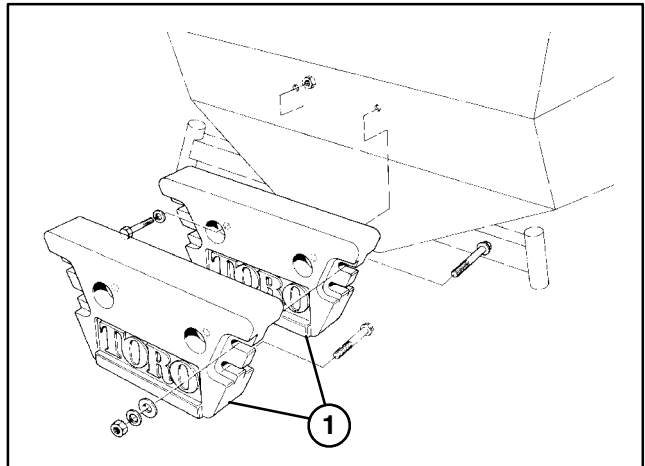

Figure 18
MOUNT REAR WEIGHTS (Fig. 18)
1. Mount rear weights to back of machine as shown in figure 18. Order kit #24–5780 (includes 2–weights, mounting hardware and installation instructions) from your Authorized Toro Distributor.